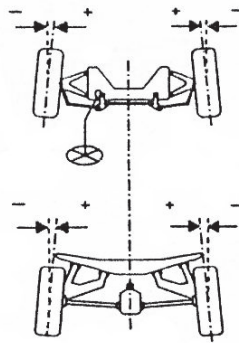

Fig. 1-6 Toe-in
1.2.2.2 Wheel toe-in (Fig. 1-6)